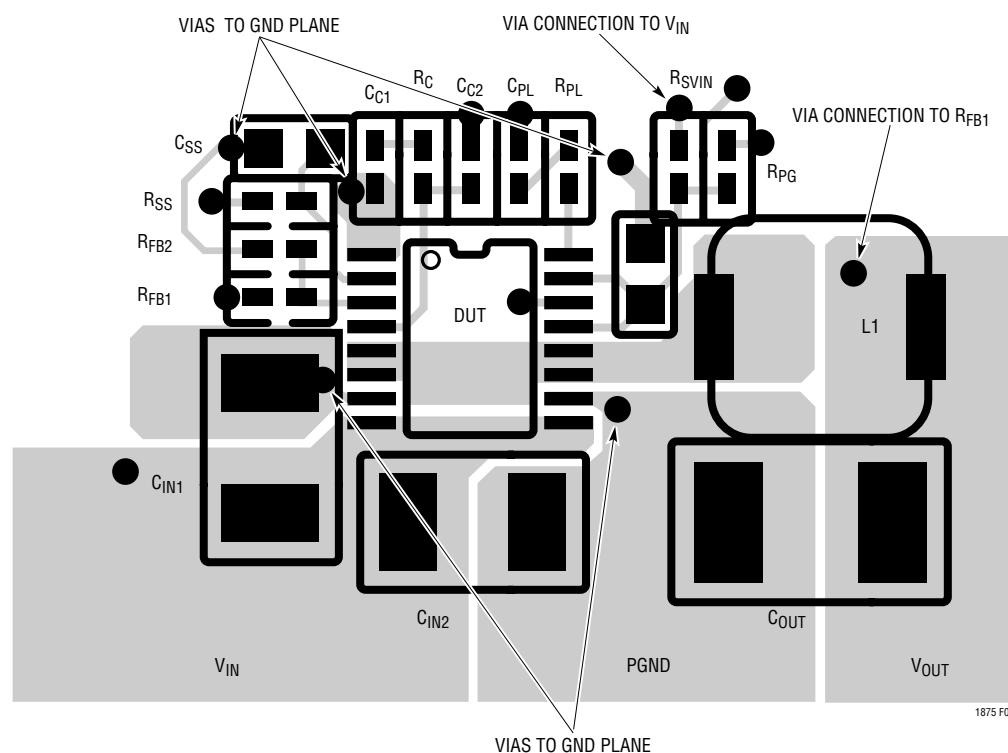

Figure 8. Typical Application and Suggested Layout (Topside Only)
As with all high frequency switchers, when considering layout, care must be taken in order to achieve optimal electrical, thermal and noise performance. Figure 8 is a sample of PC board layout for the design example shown in Figure 9. A 4-layer PC board is used in this design. Several guidelines are followed in this layout:
- Place the small-signal components away from high frequency switching nodes. In the layout shown in Figure 8, all of the small-signal components have been placed on one side of the IC and all of the power components have been placed on the other.